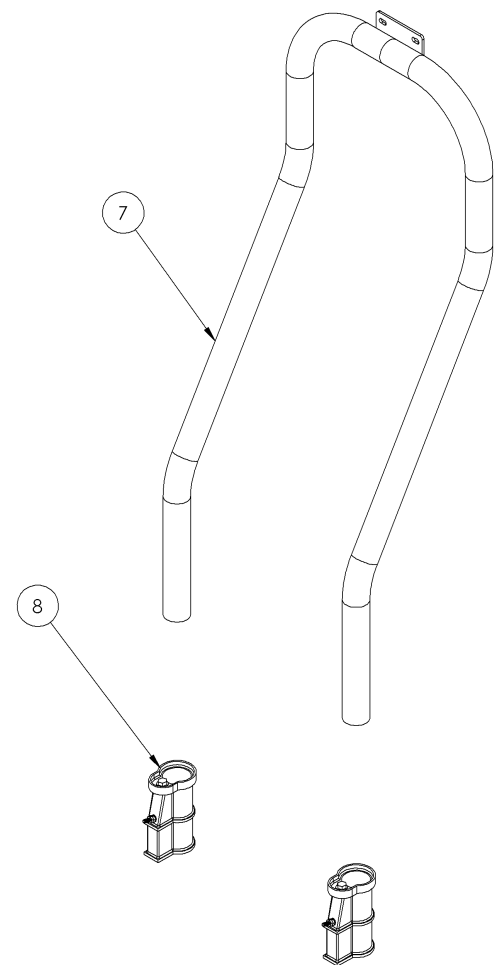

Fig. 2
1. Insert the vertical post (7) into the installed anchors (8), as shown in **FIGURE 2**. To make assembly easier, the basketball game can be assembled facing away from the pool and will be turned around once assembly is complete. (For anchor installation information see anchor manual)